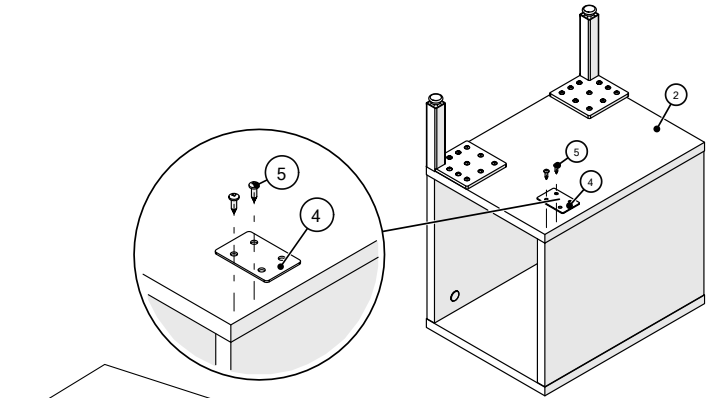

Figure 3
- 4. Install legs and mending plates on the side end box depending on the left or right configuration, (Figure 3).